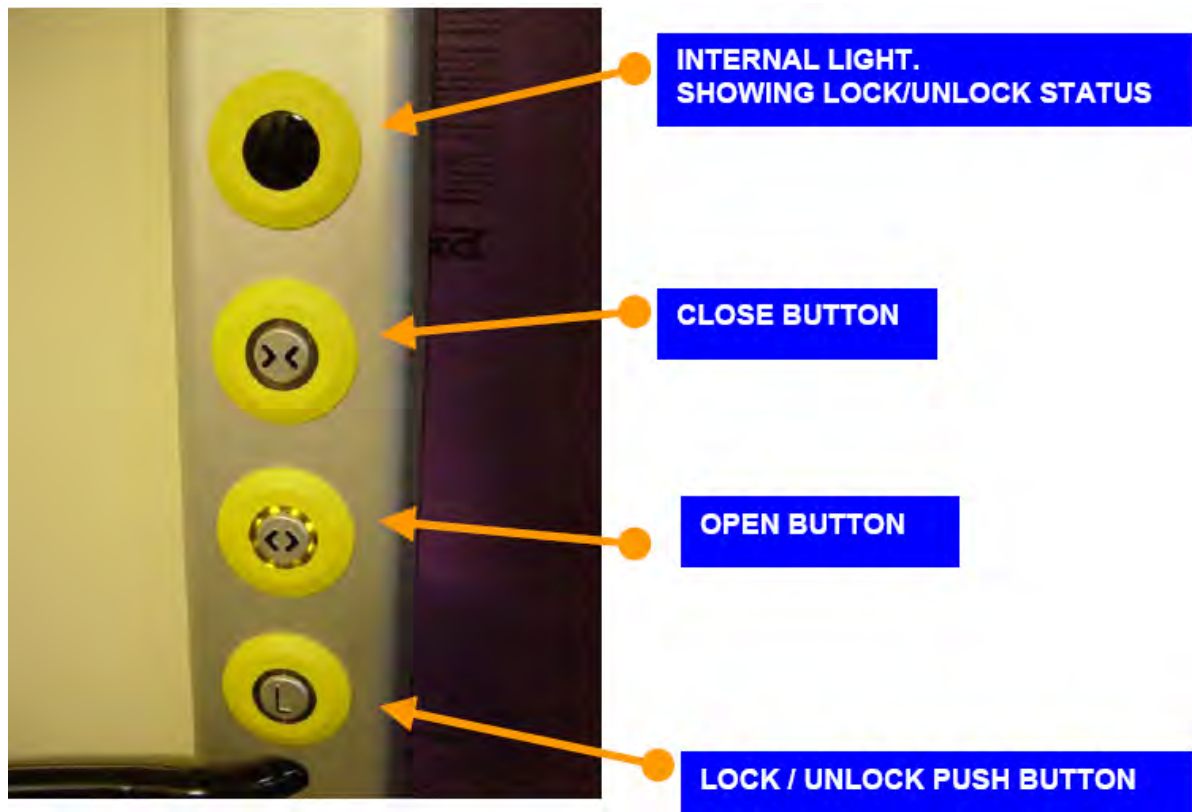

Figure 4: Internal Pushbuttons and Indicators
- 6.4 Press the door “open” button again. Step inside the toilet compartment and press the door “close” pushbutton (see Figure 4) and allow the door to close.